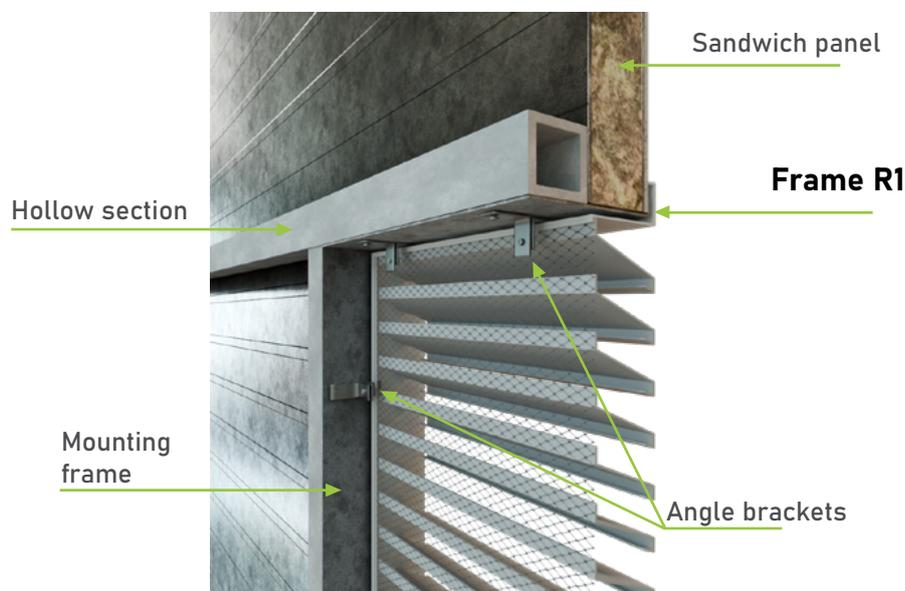

Fig. 6
- **W4** - assembly in sandwich panel for girt (Fig. 6)